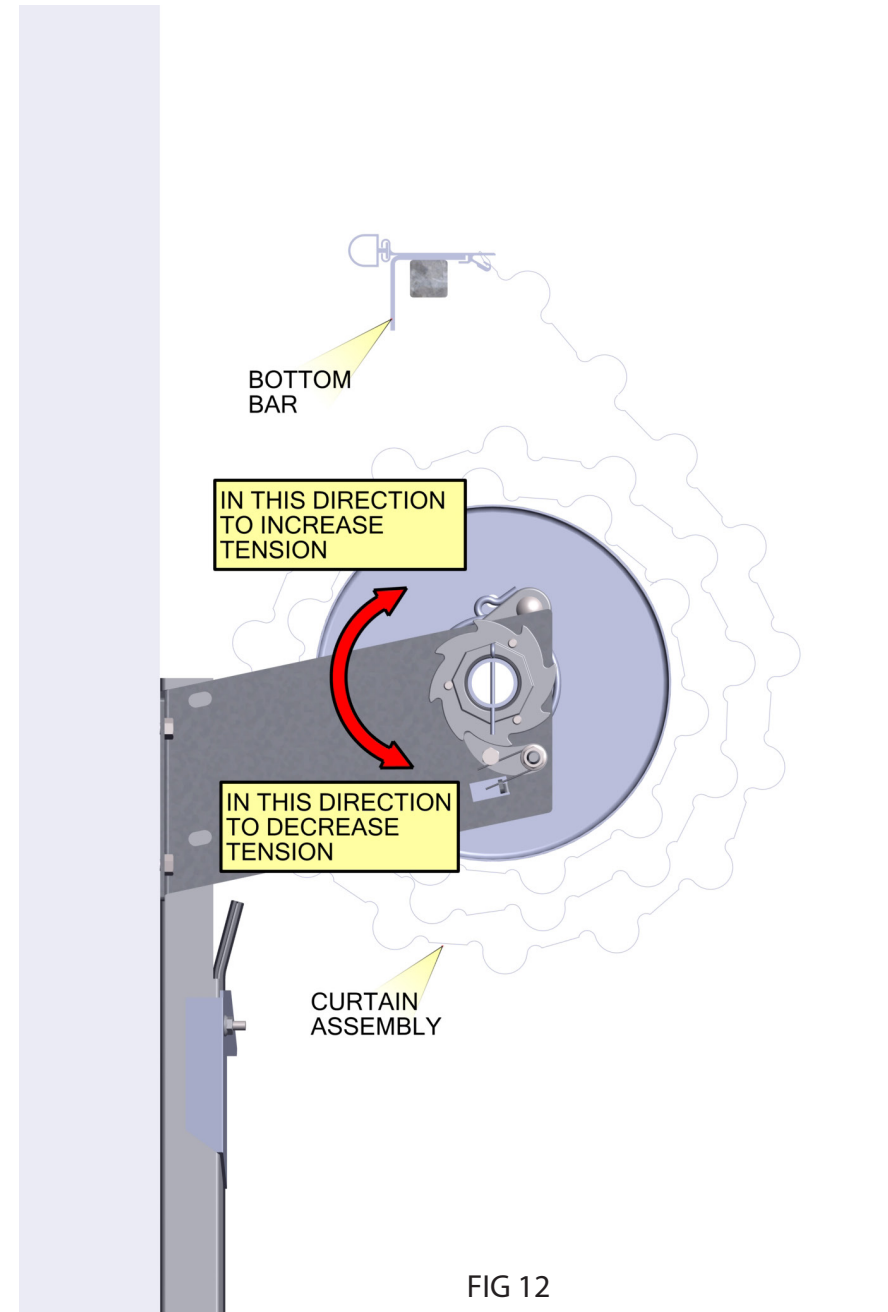

FIG 12
- Carefully roll the curtain all the way up without letting go of the bottom bar. Tie a rope around the curtain roll and slowly rotate the curtain roll in the opposite direction as tension was applied until spring is neutral. See FIG 12.